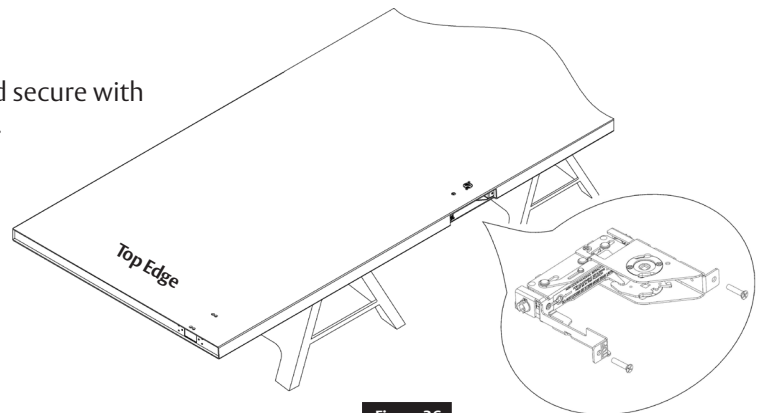

Figure 36
- Slide the LBC into the door case and secure with two (2) #12-24x1" flat head screws. (Figure 36)